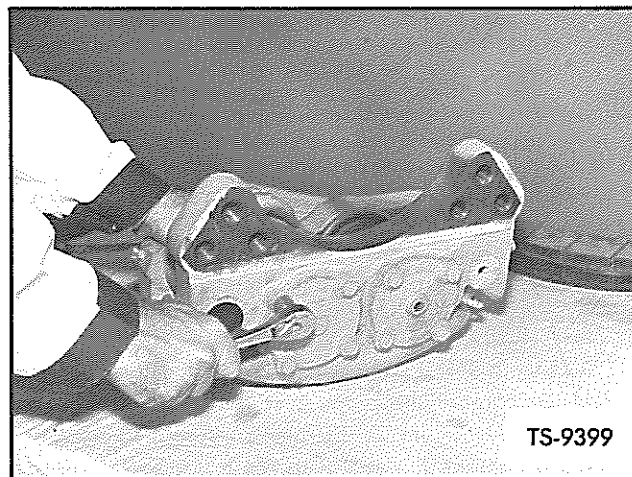

Fig. 28. Reinstall Retaining Caps
22. Lubricate cylinder retaining cap packings with brake fluid and install in retaining caps. Reinstall retaining caps on torque plate with original bolts and washers as shown in Figure 28. Torque bolts to 38 to 42 ft. lbs. with dry threads.